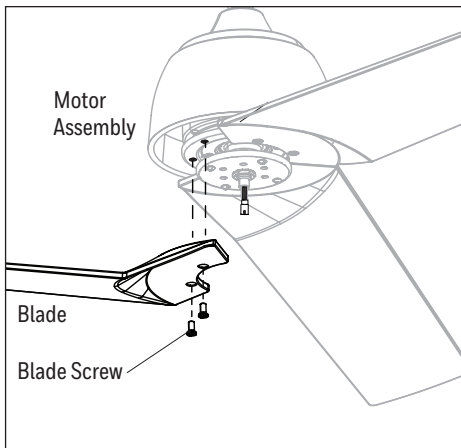

Figure 5.4
4. Align the holes of one blade with two blade screw holes in underside of the motor assembly. Secure with the two blade screws. Repeat this step for the remaining blades (Figure 5.4).